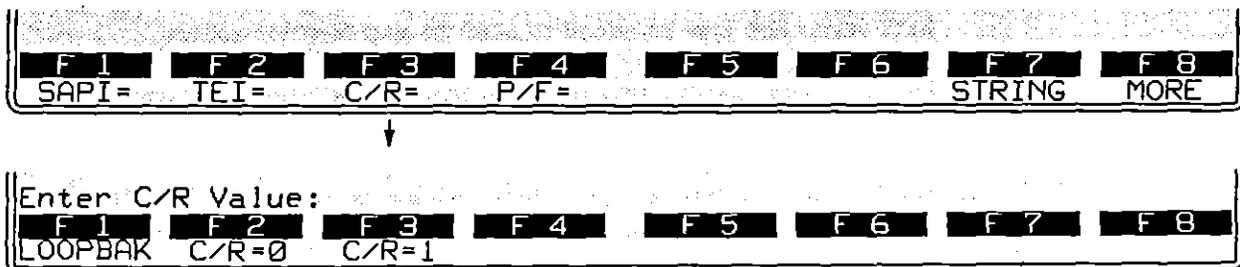

Figure 42-22 The correct Command/Response bit will depend on the logical emulation.
8. **Command/response bit.** The C/R bit may be specified for all frame types. The logical DTE uses C/R 0 for INFO frames and other command frames, and C/R 1 for responses. The logical DCE uses C/R 1 for INFO frames and other commands, and C/R 0 for responses. Since the response bit echoes the command bit, a C/R= LOOPBACK selection is provided (see Figure 42-22).